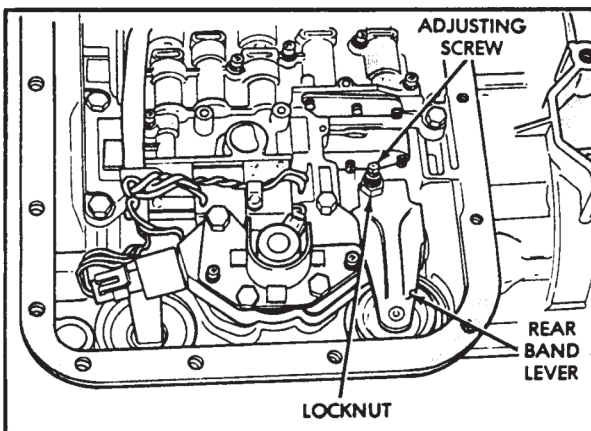

Figure 151
50. Loosen front and rear band screw locknuts (See Figure 151).